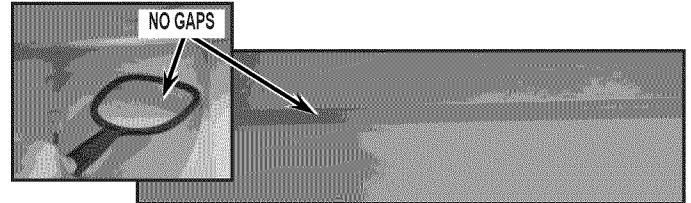

FIGURE 22
25. Using an inspection mirror, inspect seal at back of ice box to verify there are no gaps. See *Figure 22*.